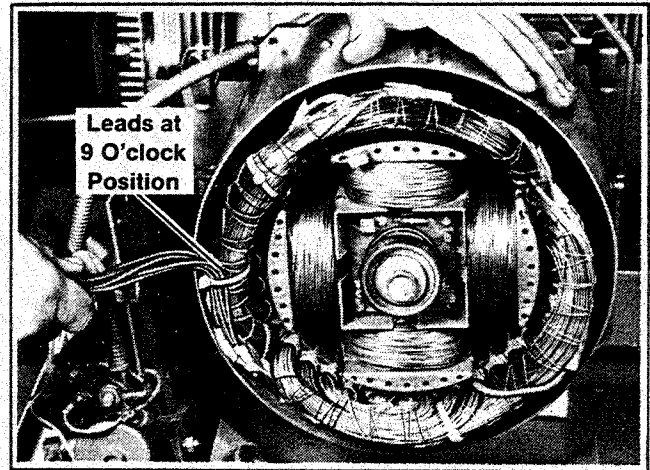

Figure 8-15. Proper Stator Position
- Slide stator over rotor and onto adapter lip. Be careful to avoid damaging rotor. Rotate stator until stator leads are at 9 o'clock position. See Figure 8-15.